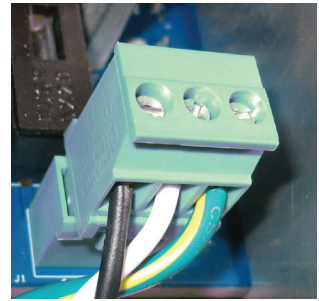

Figure 6 Completed Input Power Connector
6. Verify that the wires are properly connected and secure in the terminal block. Properly stripped, inserted and secured wires should look like Figure 6 with no stray wires protruding from any terminal.